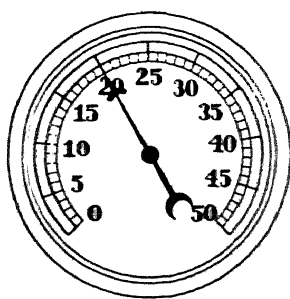
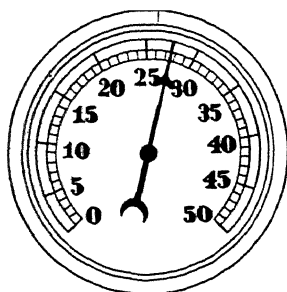
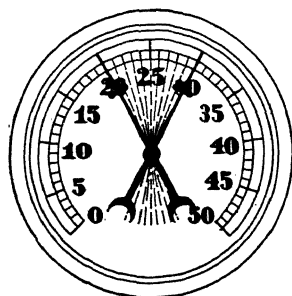

Fig. 32. Vacuum Needle Position—Late Valve Timing at Idling Speed
Fig. 33. Needle Position Showing Perfect Condition at Idling Speed—Reading 25 to 30 or More with Needle Steady
Fig. 34. Vacuum Gauge Showing Slow Movement of Needle—Adjust Carburetor to Steady Needle
**Valve Timing.** If valve timing is late any appreciable amount, the vacuum needle, Fig. 32, will remain at approximately 20 and higher reading cannot be obtained. Fig. 33 shows a correct condition at engine idling speed. Reading on the vacuum gauge is 25 to 30 or more and the needle remains steady. If a condition, Fig. 34, exists, that is, a slow movement of the needle, adjust the carburetor to steady